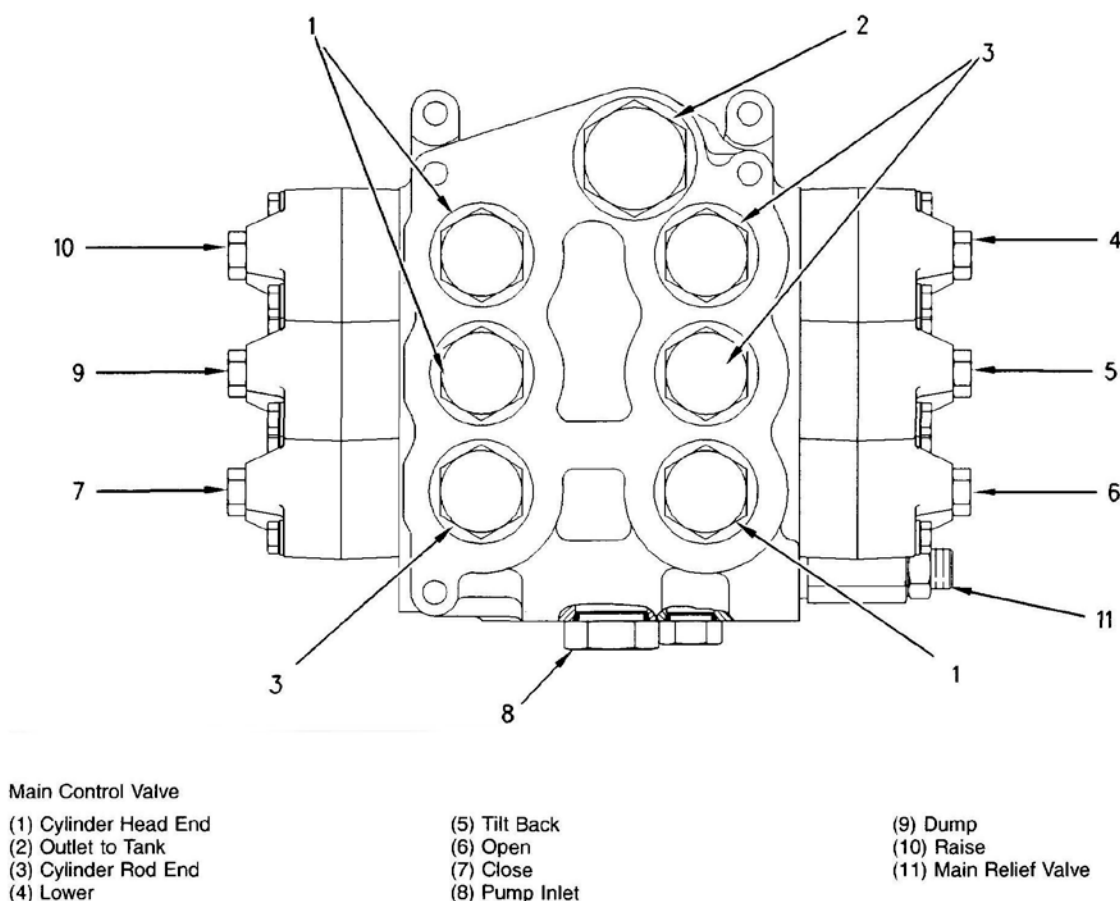
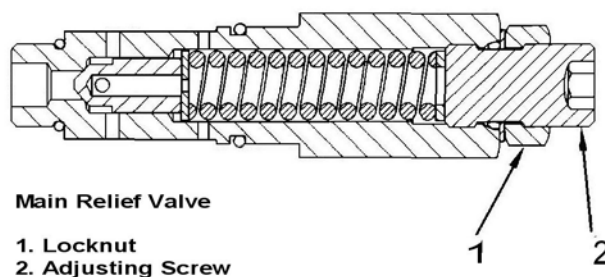

Figure 1-59. Hydraulic main control valve.
Figure 1-62. Main relief valve.
The hydraulic functions of the adverse terrain forklift are controlled by pilot operated valves. The controls in the cab operate the pilot valves. These valves control pilot pressure from the steering pump. When a function is selected, the pilot valves send pressure to the main control valve (fig. 1-59), to actuate the function. Once actuated, the main control valve sends pressure from the implement pump to the function's cylinders. The implement pump is a vane-type pump, and is driven off the transmission. The three implement functions on the forklift are (1) raise/lower, (2) tilt forward/back, and (3) fork spread. The raise/lower and tilt circuits use load control valves to hold the lift cylinders in place in the event of a hydraulic line failure. There is no emergency pump for the implement systems. In the event of engine failure, an accumulator provides pressure to activate the pilot operated valves to lower the lift cylinders.
Located in the inlet section of the main control valve (fig. 1-59) is the main relief valve (fig. 1-62). The main relief pressure setting is 3,000 +/- 44 pounds per square inch (psi). If the forklift is experiencing hydraulic problems, the main control valve may need to be adjusted. Always follow troubleshooting procedures outlined in the technical order.
Loosen the locknut (1), turn the adjusting screw (2) (fig. 1-62) clockwise for an increase in pressure, and counter clockwise to decrease the pressure setting in the relief valve.